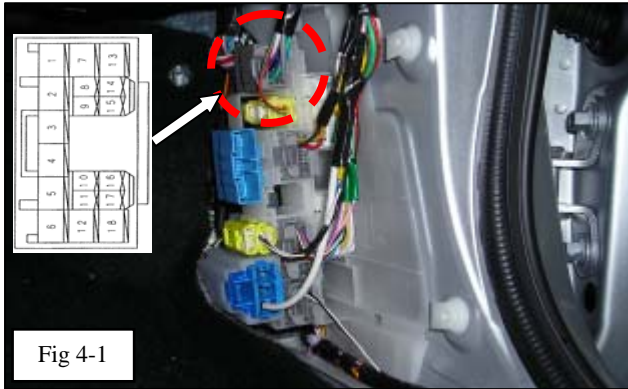
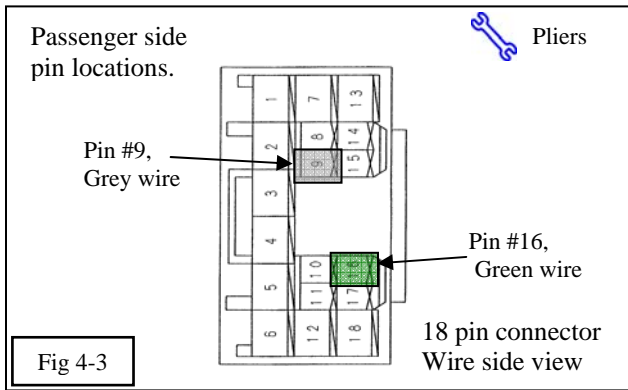

Fig 4-1
Fig 4-3
- (a) Locate and disconnect the **GREY** 18 pin connector on the passenger cowl side connector block. (Fig. 4-1)
- (1) There is more than one **GREY** wire on the 18 pin connector, make sure you have the correct wire, Pin 9, before installing the scotch lock.
- (2) Locate the **GREY** wire, pin 9, on the 18 pin connector (Fig. 4-3).